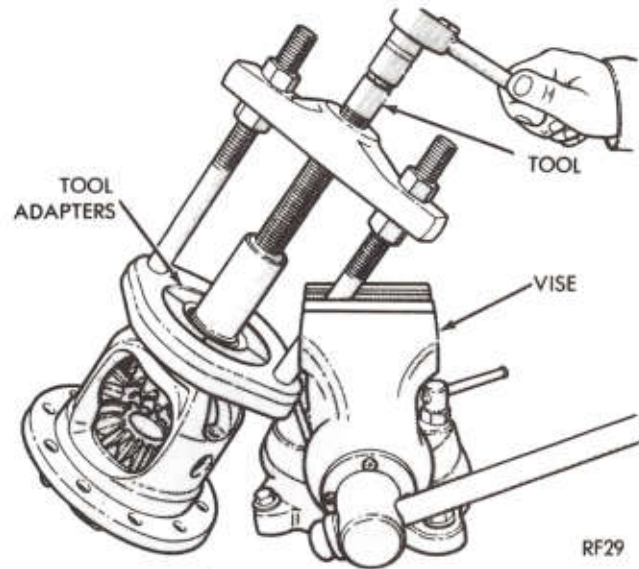

Fig. 9—Removing Differential Bearing Cone
(20) Remove differential pinion mate shaft, differential pinion mates and thrust washers (one back of each pinion). Remove differential side gears and thrust washers (one back of each gear).
(21) Using Tool DD-914-P, adapter ring DD-914-8, plates DD-914-62, screw extension DD-914-7, and button DD-914-42, remove differential cones from case (Fig. 9). Care must be taken to insure that bearing remover adapters are located so as not to pull on bearing cage.
(22) Remove the shims located behind each bearing and record thickness and respective side to aid in reassembly.